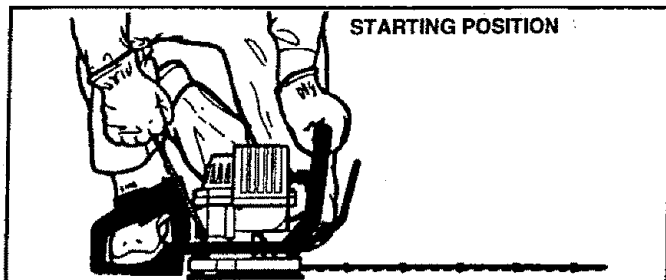

Figure 11
BASIC STARTING PROCEDURE (Fig. 11, 12 & 13)
- Rest unit on ground. Support the unit so the blade is off the ground and away from trees, bushes, onlookers, etc. Figure 11.